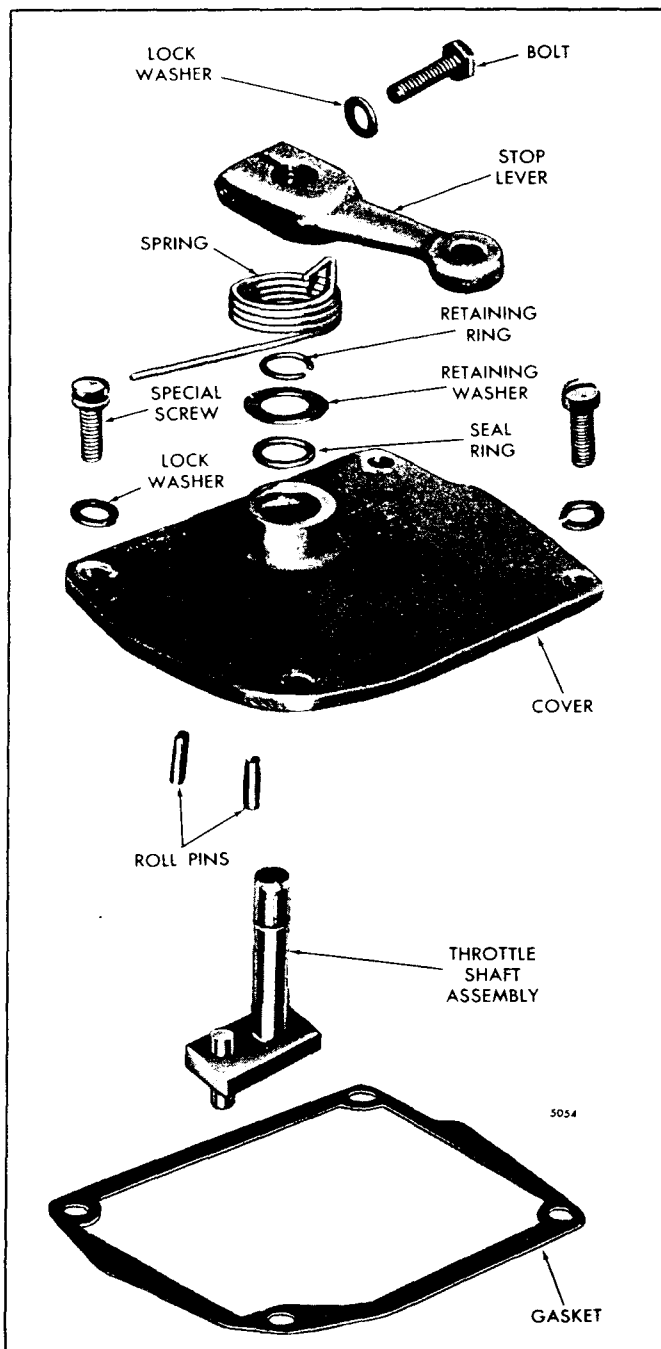

Fig. 2 - Governor Cover Details and Relative Location of Parts
3. Remove the retaining ring and seal retaining washer. Withdraw the throttle shaft (Fig. 2) from the cover.